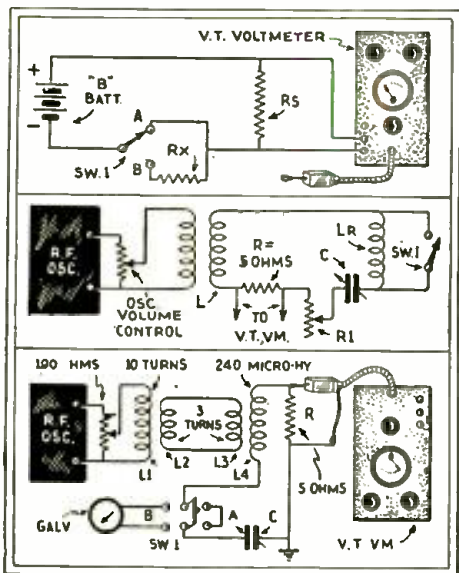

Fig. 1, above. Fig. 2, center. Fig. 3, below.
**R**ESISTORS of all sizes may be measured by the use of the setup given in Fig. 1. If desired, a permanent setup as an ohmmeter may be made; the accuracy of measurement is very close to that obtainable by the Wheatstone Bridge method. Should the experimenter desire a permanent setup as an ohmmeter, the scale of the V.T. voltmeter indicating meter may be calibrated. (See February issue of RADIO-CRAFT for a description of the voltmeter.—Editor.)